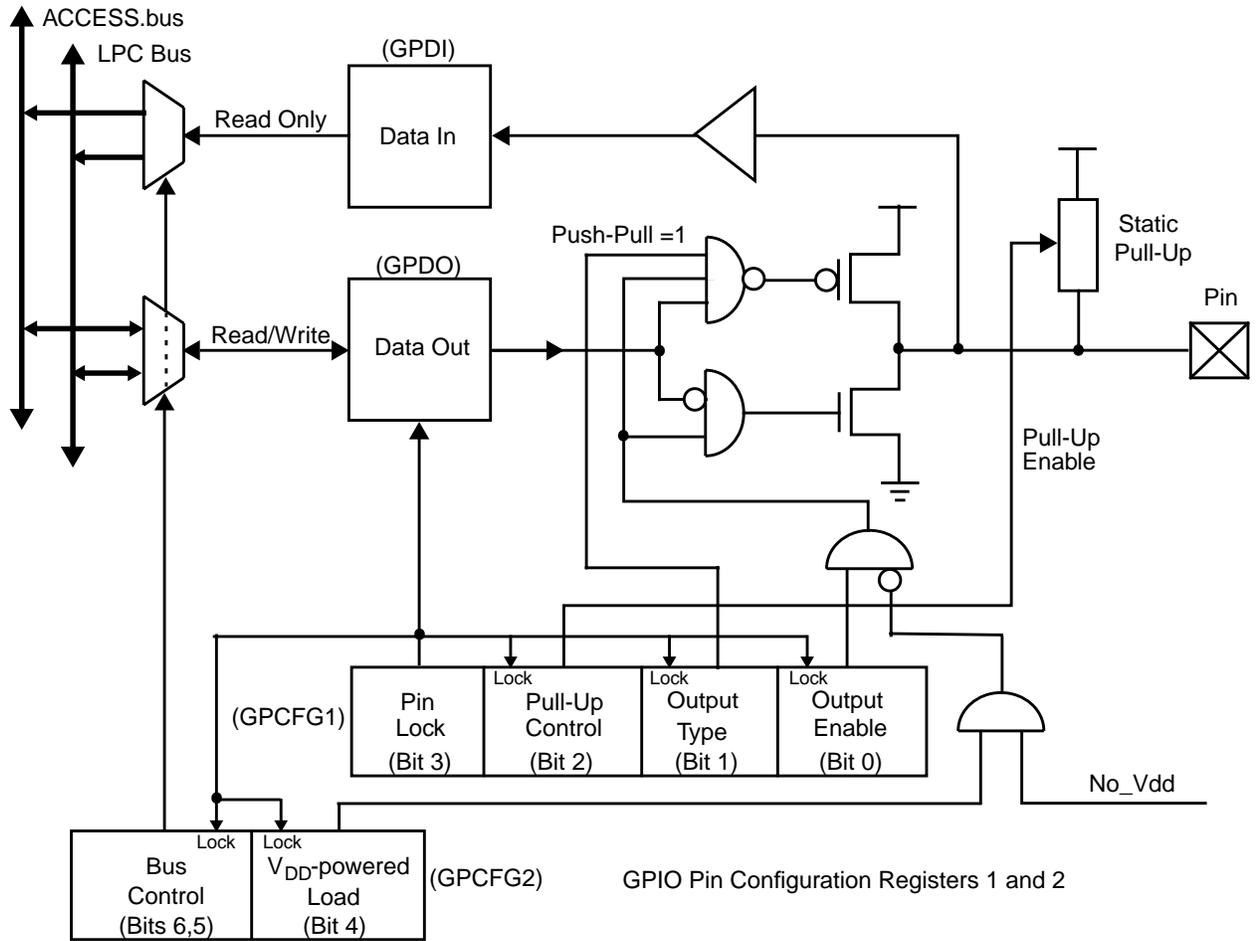

Figure 36. GPIO Basic Functionality
The basic functionality of each GPIO pin is based on four configuration bits and a bit slice of runtime registers GPDO and GPD1. The configuration and operation of a single pin GPIOX_n (pin 'n' in port 'X') is shown in Figure 36.
- Access Control - Limits access to the specific pin from only one of the buses (ACCESS.bus or LPC bus). When access from a bus is disabled, attempted writes to the Basic Functionality configuration registers (GPCFG1 bits 3-0 and GPCFG2 bits 6-4, none of which are shown in Figure 36) and to the corresponding bit in the GPDO register are ignored. Reads from the bits above and from the corresponding bit in the GPDI register are allowed and return the actual bit value. Bus access is controlled by Bus Control bits (bits 6 and 5). After reset, both bits are '0' and access is allowed from both ACCESS.bus and LPC bus. **In the PC87414 and PC87416, this feature is irrelevant because only the LPC bus is available.**